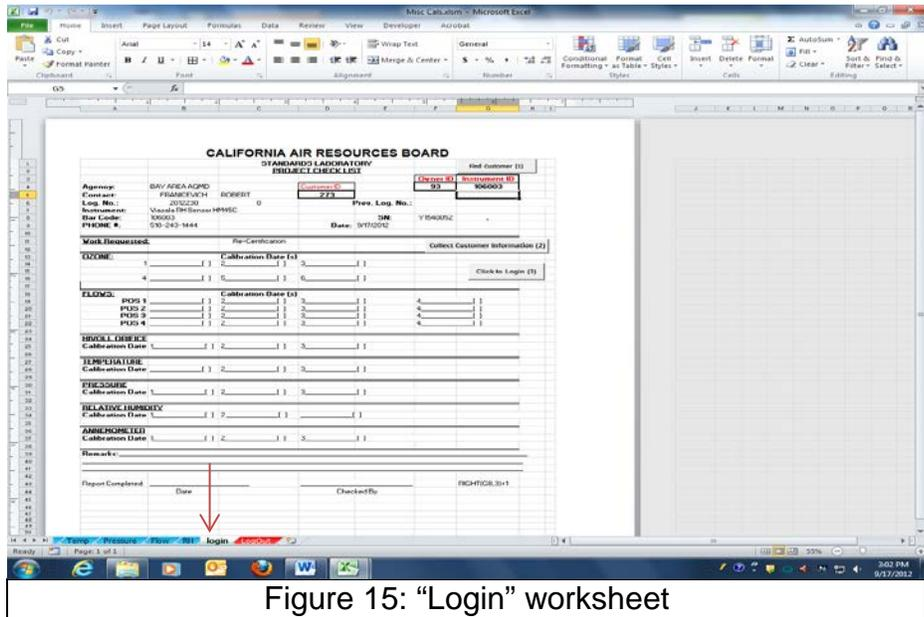

Figure 15: “Login” worksheet
12.8 Select the “Login” worksheet. See Figure 15.